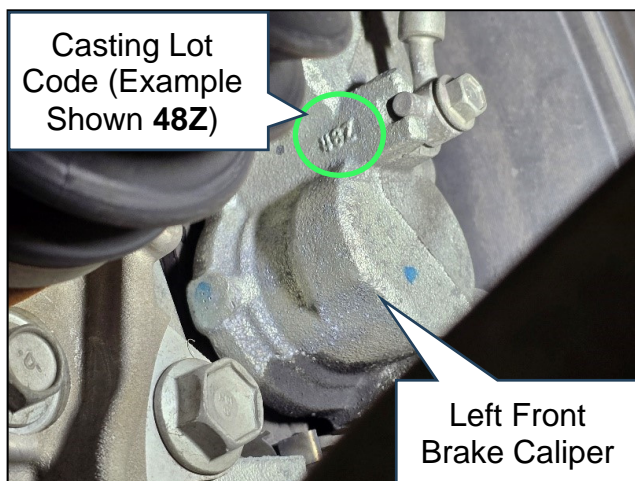
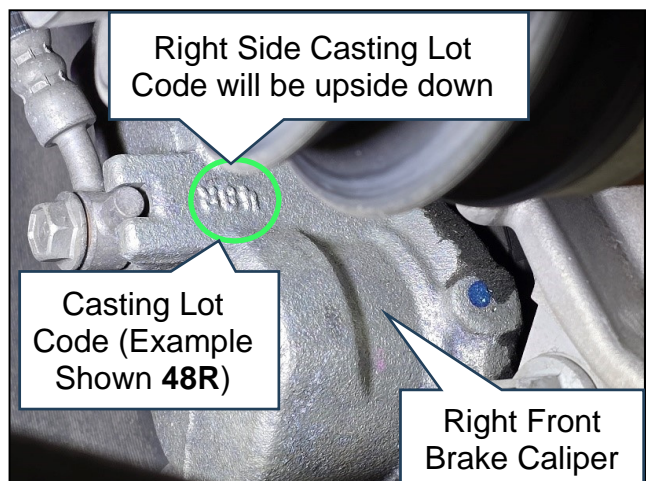

Figure 6
Figure 7
5. On both front brake calipers, locate the three (3) character casting lot codes.
- Use of a light source will be required to see the front brake calipers and the casting lot codes (Figure 6 and Figure 7).
- The casting lot code on the driver (LH) side will be right side up.
- The casting lot code on the passenger (RH) side will be upside down.
- The casting lot code will contain three (3) characters.